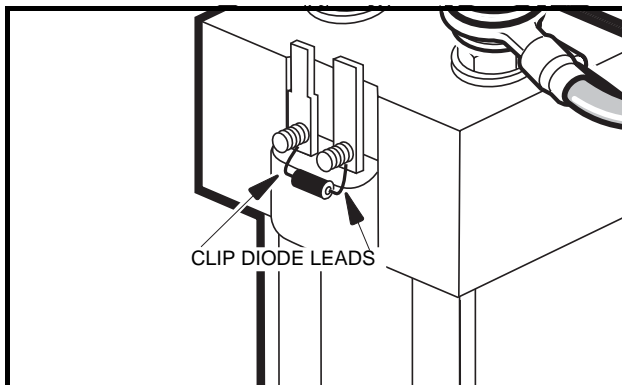
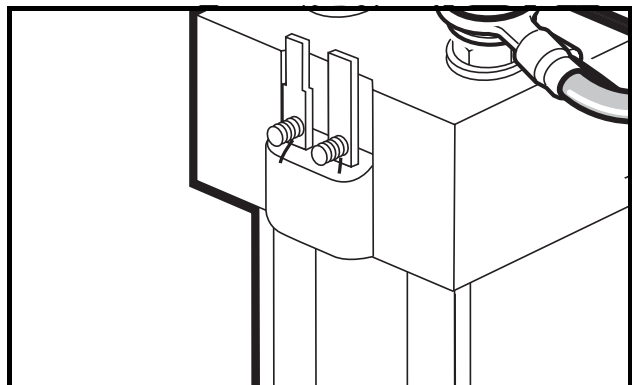

Figure 11-9 Diode Removal
Figure 11-10 Solenoid with Diode Removed
4. To remove the diode, carefully clip the two leads where they attach to the solenoid terminals (**Figure 11-9, Page 11-15 and Figure 11-10, Page 11-15**). See following **NOTE**.